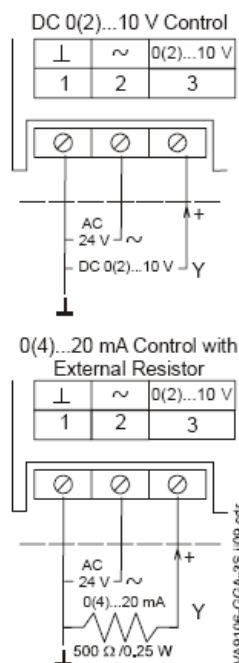

Figure 8: VA9104-GGA-3S Control Wiring Diagram
The VA9104-GGA-3S Series Electric Non-Spring Return Valve Actuators require AC 24 V power and a DC 0(2) to 10 V or 0(4) to 20 mA controller input signal. These electric actuators include M3 screw terminals that require a slotted screwdriver. See Figure 8 for proper wiring.